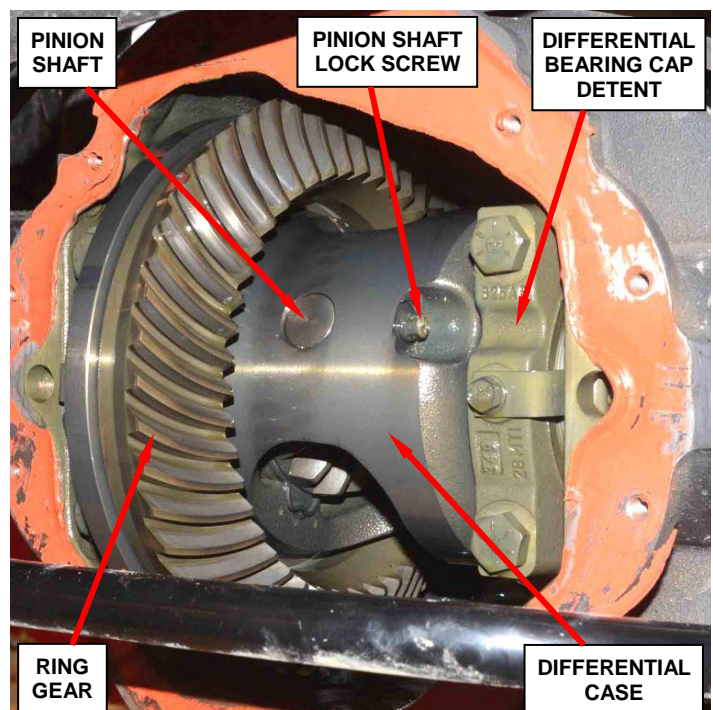

Figure 6 – Pinion Shaft
9. Rotate the differential case so pinion shaft lock screw is aligned with the differential bearing cap detent (Figure 6).
10. Remove and discard the original pinion shaft lock screw (Figure 6).
11. Remove and save the pinion shaft from the differential case (Figure 6).